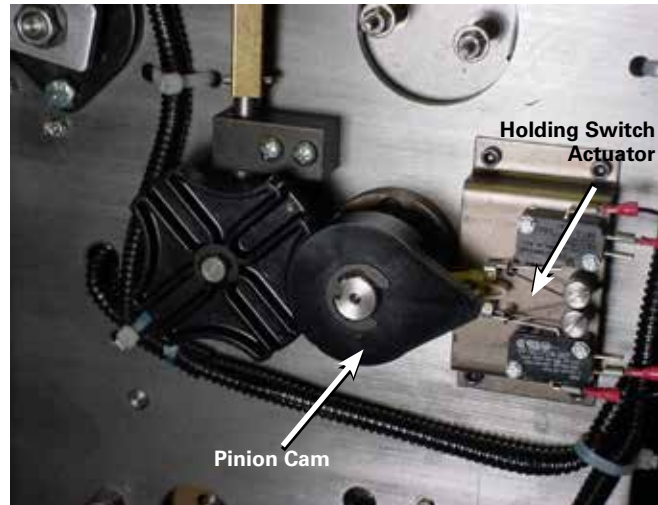

Figure 9. Neutral position for position indicator pinion cam and holding switch.
- C. The pinion cam is pointing to the right over the holding switch actuator. See Figure 9.